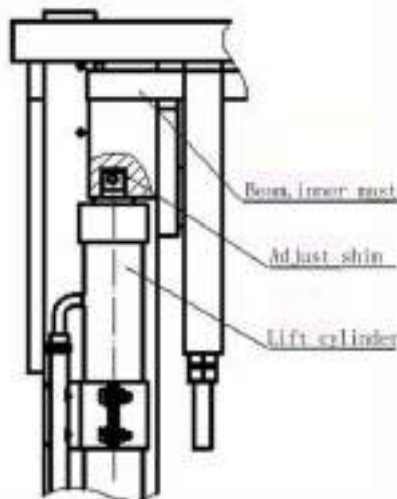

Fig.8-4
(1) Install the piston rod in the upper beam of the inner mast without shims.
(2) Lift the mast slowly to the max. stroke of the cylinder and check the two cylinders synchronize or not.
(3) Install shims between the top of the piston rod of the cylinder which stop first and the upper beam of the inner mast (Fig.8-4). The shims are 0.2mm or 0.5mm thick.
(4) Adjust the tightness of lift chains.